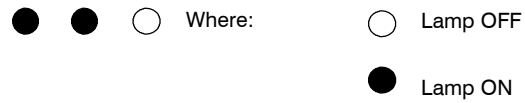

Fig. 21
- 12 Press the reset button C repeatedly (2 times) until the lamps E give the indication as in Fig. 21 (useful c.h. output adjustment mode).